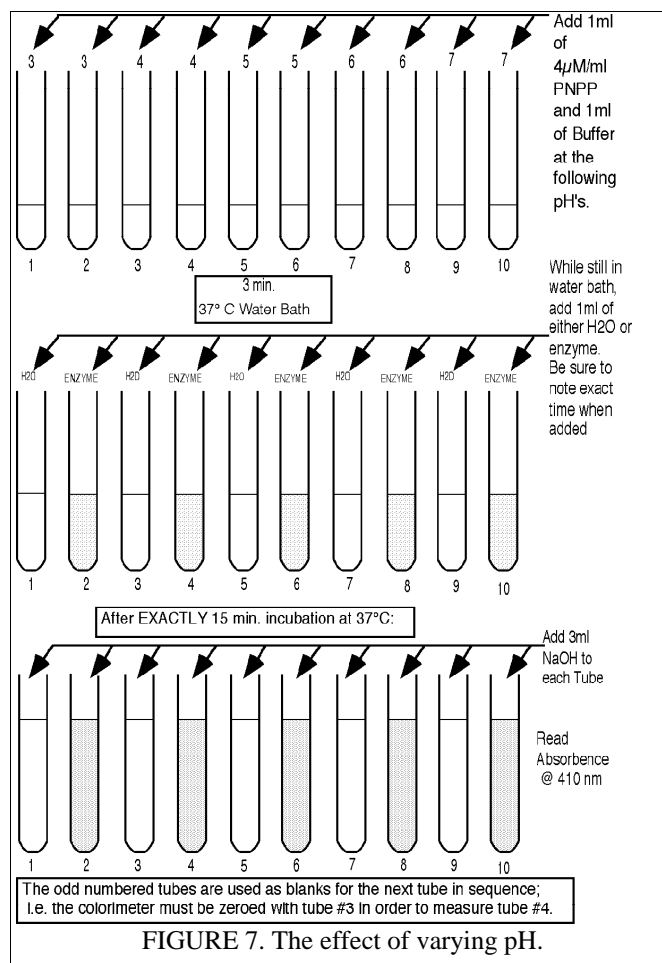

FIGURE 7. The effect of varying pH.
In this section, the standard assay will be performed (4mM PNPP; 15 min. incubation at 37°C), but the pH of the buffer solutions will be varied (Fig. 7).
1. Label tubes #1-#10 as indicated in Figure 7.
2. Add 1ml of the indicated buffer solutions (Fig. 7) to the tubes. Note that they are in pairs. The reason for this is that each buffer pH requires its own separate blank.
5. While tubes are still in the water bath, add 1ml of enzyme solution, or 1ml of water as indicated in Figure 7. Be sure to note the exact time of the addition for each tube in Table 4. The tube receiving the water will serve as the blank for that particular pH.